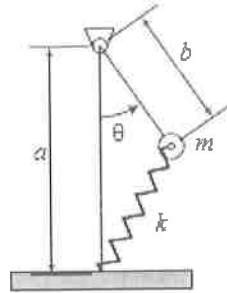

Figure 2: Spring connected pendulum
10. Determine the potential energy of the pendulum in Figure 2, at an angle θ , if: